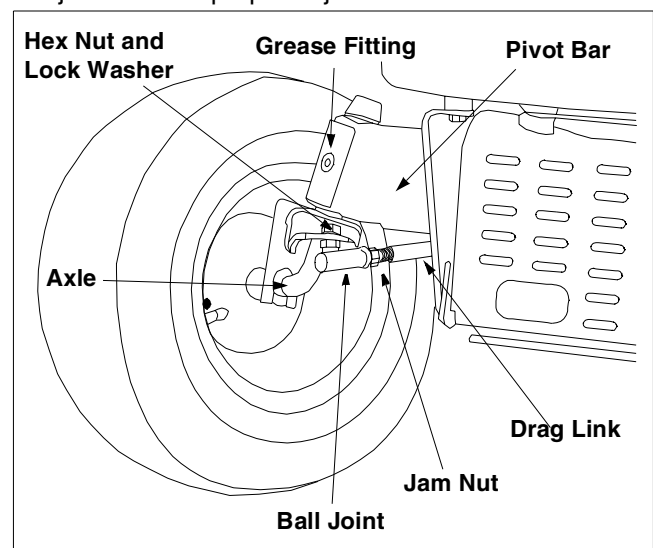

Figure 7
- Loosen the jam nut found on the drag link at the rear of the ball joint. See Figure 7 .
- Remove the hex nut and lock washer on the top of ball joint. See Figure 7 .
Each of the front wheel axles is equipped with a grease fitting (Figure 7). Lubricate with a grease gun after every 25 hours of tractor operation.